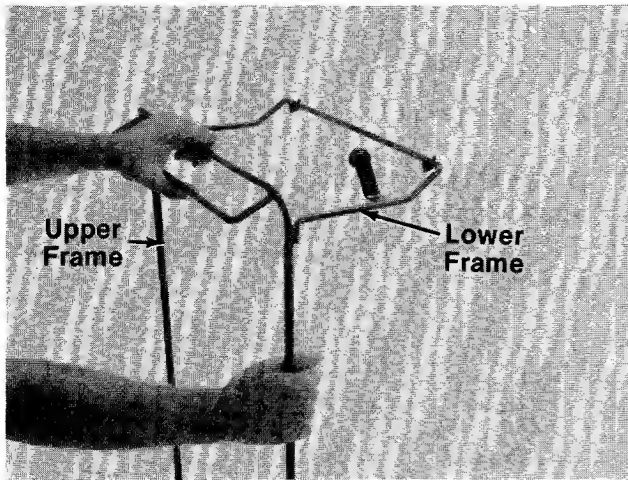

FIGURE 7.
1. Join the upper frame and lower frame assembly as shown in figure 7.